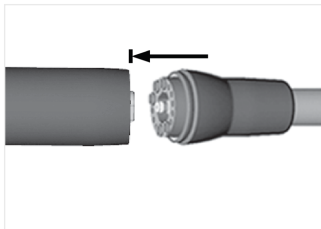

FIG. 2
1. Connect the motor to the proprietary hose (with connector type MCX) as shown in FIG. 2.